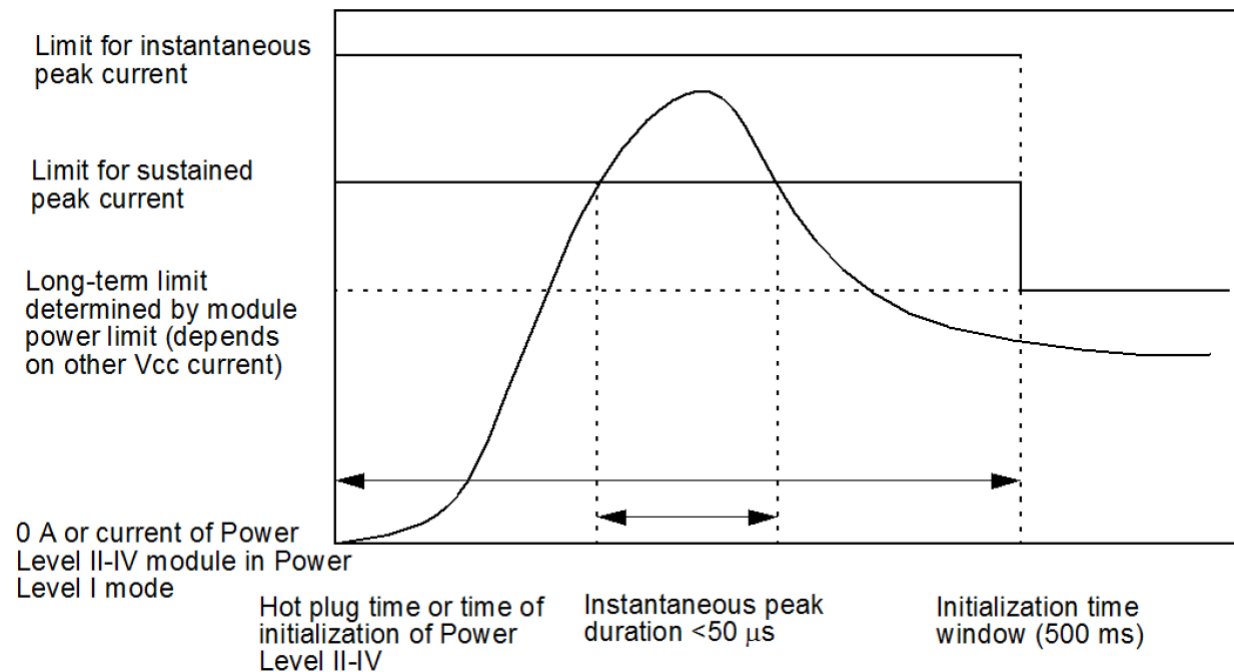

Figure 13: Instantaneous and sustained peak current for Vcc
The maximum power level is allowed to exceed the classified power level for 500 ms following hot insertion or power up, or Power Level II-IV authorization, however the current is limited to values given by Table 4-9 and illustrated in Figure 13.
DSFP module operates from two host supplied Vcc contacts. To protect the host and system operation, each DSFP module during hot plug and normal operation shall follow the requirements listed in Table 4-9 and illustrated by in Figure 13. The requirements for current apply to the current through each inductor of SFF-8431 Figure 56 while the power supply voltages are defined at the DSFP connector.
3. The maximum currents for each Vcc power supply contact, therefore the total module peak currents can be twice this value. The instantaneous peak current is allowed to exceed the specified maximum current capacity of the connector contact for a short period, see Figure 13 .